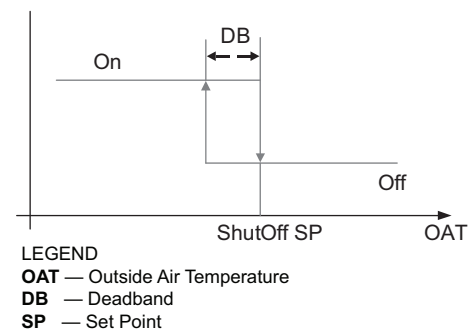

Fig. 54 — Hysteresis Settings
Hysteresis setting (DB) defaults to 2°F (–17°C). See Fig. 54.